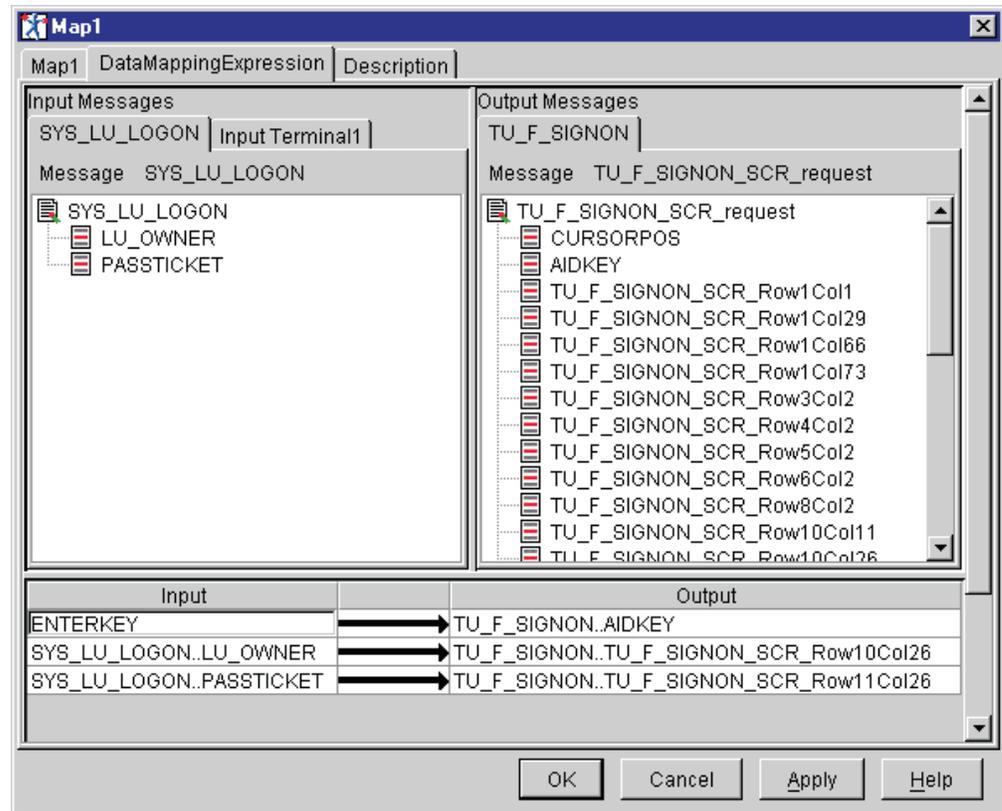

Figure 120. Mapping for Map1 node
- 1) Perform the mapping for the Map1 node as listed in Table 54 and shown in Figure 120 on page 159. Map1 maps the LU\_OWNER, PASSTICKET, and ENTERKEY for the CICS Signon screen.